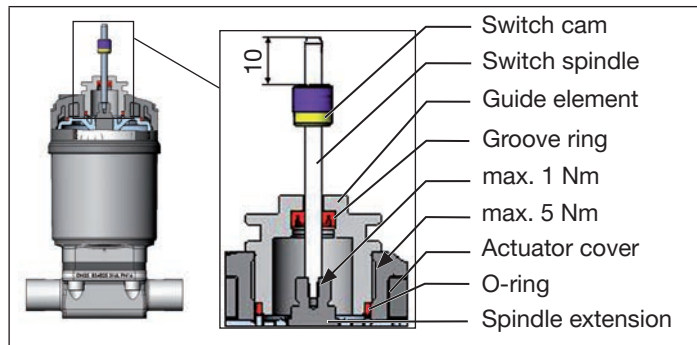

Fig. 7: Installation of switch spindle (2), 21xx series
- Position the switch cam on the switch spindle so that the distance between the switch cam and top of the spindle is 10 mm (see "Fig. 7")